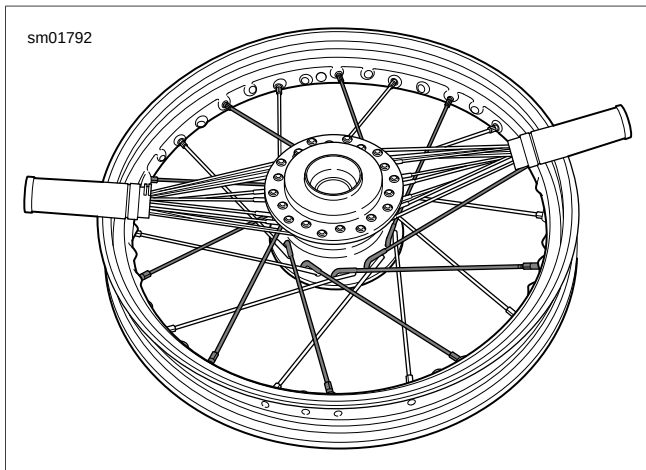

Figure 2-51. Beginning Spoke-Bottom Flange Inner
- a. See Figure 2-51. Each inner spoke (long-head) crosses four outer spokes (short-head).